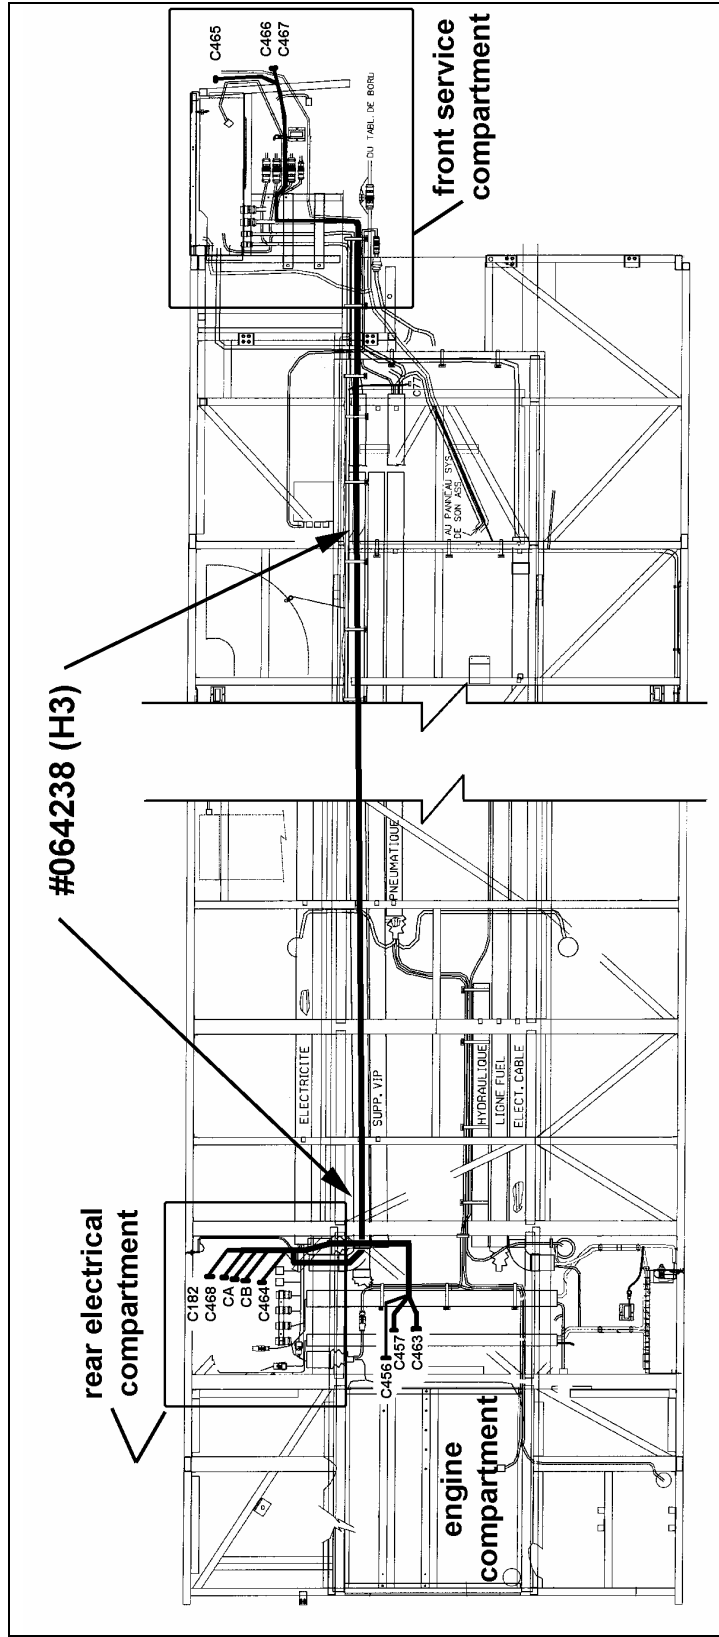

FIGURE 5:#064238 (H3) harness routing
6. **H3 SERIES ONLY.** Inside rear electrical compartment, plug connectors CA & CB to ECU (Electronic Control Unit). Plug connector C468 to VIM (Vehicle Interface Module). Plug connector C182 to VIW (Vehicle Interface Wiring). Connector C464 is used to connect with "Pro-Link" diagnostic tool. Secure this connector using nylon ties (figure 5).